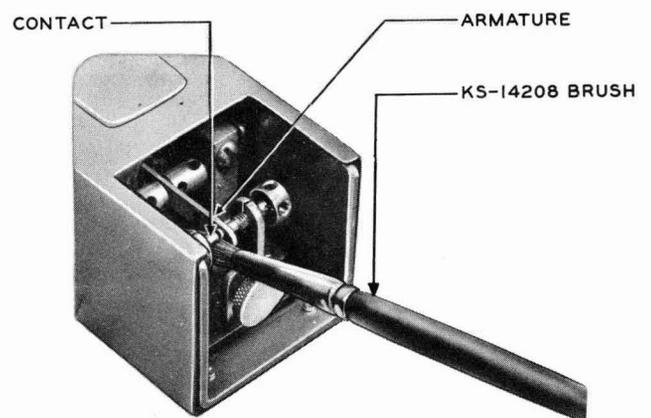
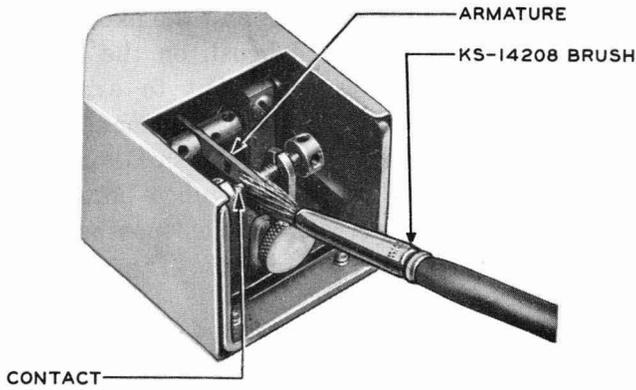
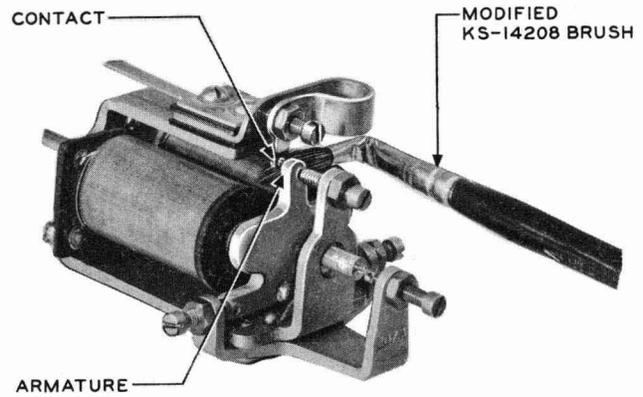

Fig. 2 — Position of KS-14208 Brush Hairs When Brush Is Below the Contacts on a 239-type Relay
Fig. 3 - Position of KS-14208 Brush Hairs After Brush Has Been Moved Slightly Upward and Outward on a 239-type Relay
Fig. 6 - Cleaning Contacts on a 207-type Relay With Modified KS-14208 Brush
4.03 All Relays Except Wire-spring and UB-type Relays: Hold the KS-14208 brush so that the center of the hairs is as shown in Fig. 2, directly under the contacts to be cleaned. Brush the contacts by gradually working the brush up between the contacts, using a back and forth (sawing) motion as shown in Fig. 3, 4, and 5. The contacts will be cleaned as the hairs pass between them. Repeat this operation two or three times. When cleaning normally closed contacts, operate the relay manually. To brush contacts on 207-type relays, it will be necessary to use a locally modified brush having the ferrule bent at approximately a 90-degree angle about 1/2 inch from the bottom as shown in Fig. 6.